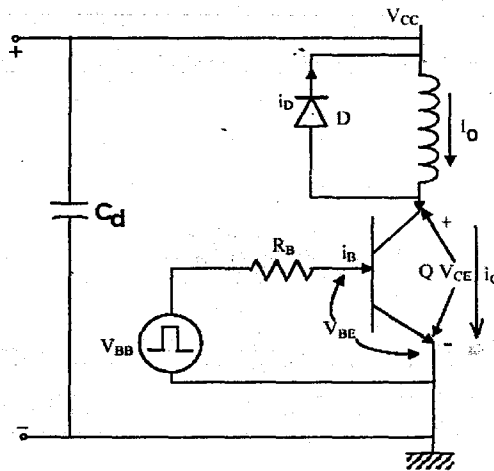

Fig.1
1. (a) Briefly state the salient features in the construction of power Bipolar Junction Transistor? (b) Discuss the second breakdown phenomena. (c) Draw and explain the turn-off waveform of a power BJT used as a CE switch where the collector is connected to an ideal diode clamped highly inductive load acting as a constant current source (d) Given the circuit in Fig.1, estimate the maximum permissible switching frequency. The freewheeling diode is ideal and the power transistor has the parameters: $\beta=10$, $V_{CE(sat)} = 1.5$ V,